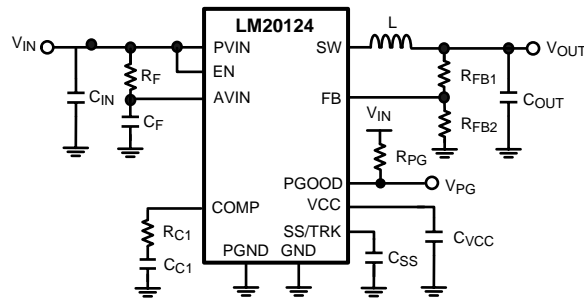

Figure 25. Typical Application Circuit
The LM20124 switching regulator features all of the functions necessary to implement an efficient low voltage buck regulator using a minimum number of external components. This easy to use regulator features two integrated switches and is capable of supplying up to 4A of continuous output current. The regulator utilizes peak current mode control with nonlinear slope compensation to optimize stability and transient response over the entire output voltage range. Peak current mode control also provides inherent line feed-forward, cycle-by-cycle current limiting and easy loop compensation. The fixed 1 MHz operating frequency minimizes the inductor size while still achieving efficiencies up to 96%. The precision internal voltage reference allows the output to be set as low as 0.8V. Fault protection features include: current limiting, thermal shutdown, over voltage protection, and shutdown capability. The device is available in the TSSOP 16-pin package featuring an exposed pad to aid thermal dissipation. The LM20124 can be used in numerous applications to efficiently step-down from a 5V or 3.3V bus. The typical application circuit for the LM20124 is shown in Figure 25 in the design guide.
This section walks the designer through the steps necessary to select the external components to build a fully functional power supply. As with any DC-DC converter numerous trade-offs are possible to optimize the design for efficiency, size, or performance. These will be taken into account and highlighted throughout this discussion. To facilitate component selection discussions the circuit shown in Figure 25 below may be used as a reference. Unless otherwise indicated all formulas assume units of amps (A) for current, farads (F) for capacitance, henries (H) for inductance and volts (V) for voltages.
To prevent high frequency noise spikes from disturbing the sensitive analog circuitry connected to the AVIN and AGND pins, a high frequency RC filter is required between PVIN and AVIN. These components are shown in Figure 25, as C_F and R_F . The required value for R_F is 1Ω . C_F must be used. Recommended value of C_F is $1.0\mu F$. The filter capacitor, C_F should be placed as close to the IC as possible with a direct connection from AVIN to AGND. A good quality X5R or X7R ceramic capacitor should be used for C_F .